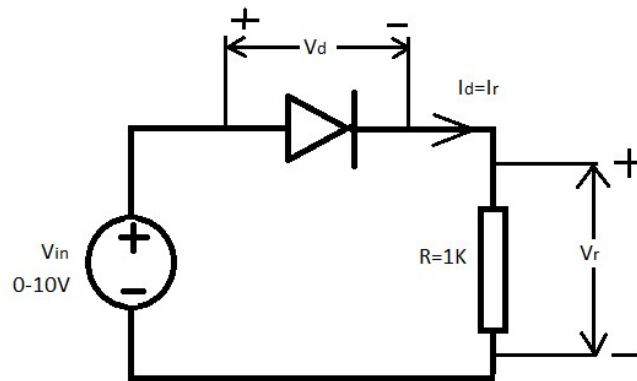

Figure 4: Circuit diagram
2. Connect the circuit as shown in fig. 4.